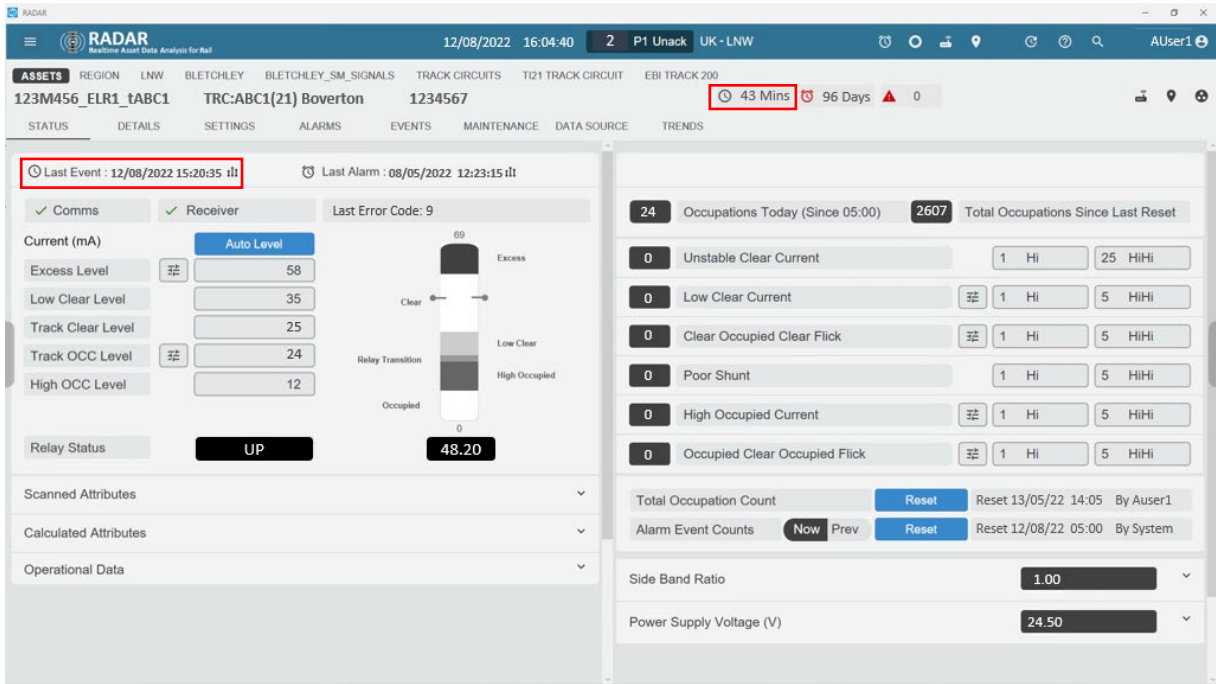

Figure 2 - Screen shot showing Current Status
8.3 Check that the track circuit “Last Event” is up-to-date (less than 6 hours since the last update) See Figure 2.